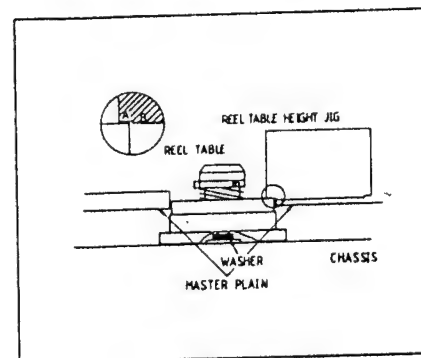

Fig. 1 Reel Disk Height
1. Remove the top and bottom panels. (See Figs. 1,2)
1. Follow the procedure for removing the panels. (See Figs. 1 to 3)
3-2. Reel Disk Heights (Fig. 1)
Check turntable heights by installing the Master Plain. Set the Reel Disk Height Jig in place and check the height of the supply and take up turntables. (See Fig. 1.)
Note: For proper height point "A" should slide over the reel disk and point "B" should not. (Fig. 1)